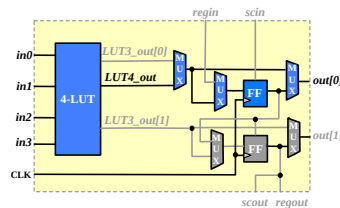

Fig. 3.9: Resource usage of the logic element operating in LUT4 + FF mode (Grey blocks and lines are unused resources).
The logic element can operate in the Look-Up Table (LUT) + Flip-flop (FF) mode as many classical FPGA logic elements. As depicted in Fig. 3.9, the fracturable LUT will operate as a single-output 4-input LUT and the upper FF is used to implemented sequential logic.